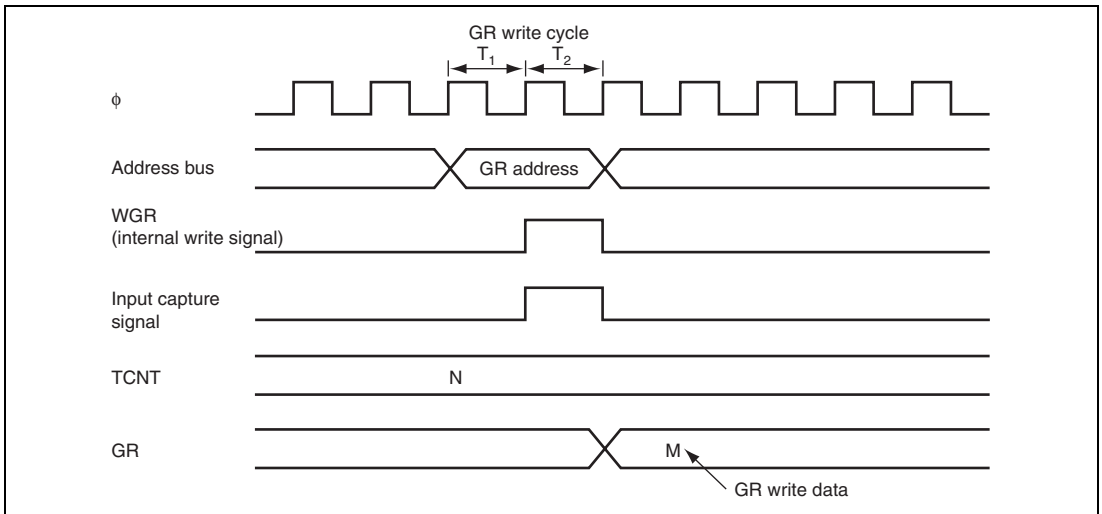

Figure 14.58 Contention between GR Write and Input Capture
7. **Contention between GR Write and Input Capture:** If an input capture signal is generated in the T_2 state of a GR write cycle, the input capture operation has priority and the write to GR is not performed. Figure 14.58 shows the timing in this case.